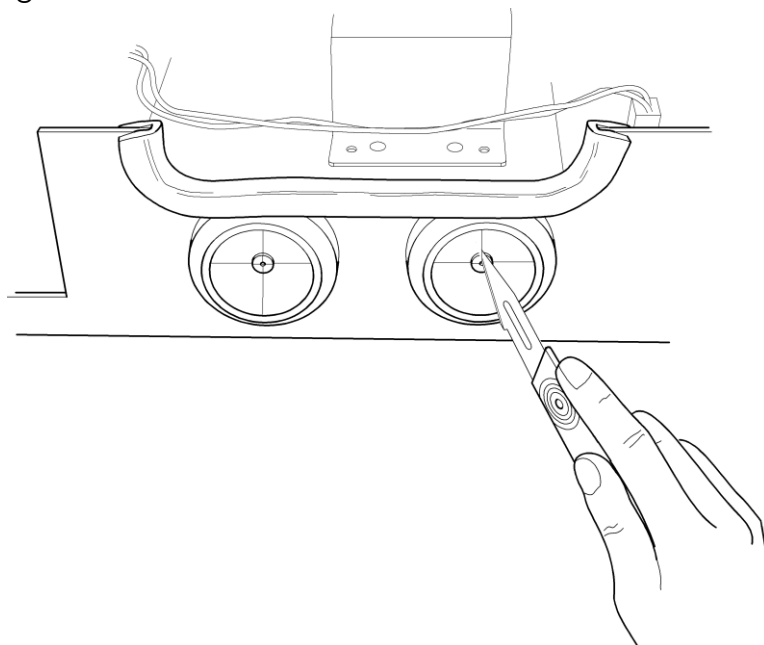
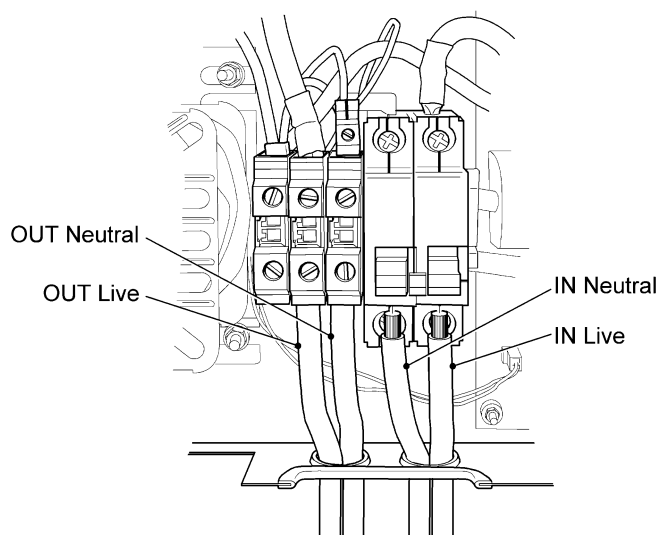
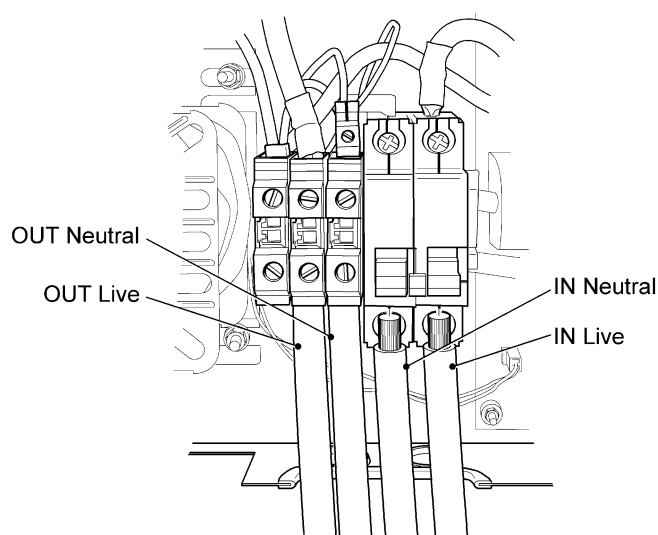

Figure 4: Grommet Preparation for a 16mm csa cable installation
Figure 5: 16mm csa installation
Figure 6: 25mm csa cable installation
- a. If installing with 16mm csa cables cut the grommet. Refer to Fig 4 and Fig 5. If using 25mm csa cables they will be installed in the cut out, refer to Fig 6 for 25mm cable installation.
Connect the cables from the meter to the terminals of the double pole isolator at the Domestic Voltage Optimisation Unit. Connect the output cables from optimiser at the din rail connectors. Refer to Figure 5 for 16mm cable installation and Fig 6 for 25mm cable installation.